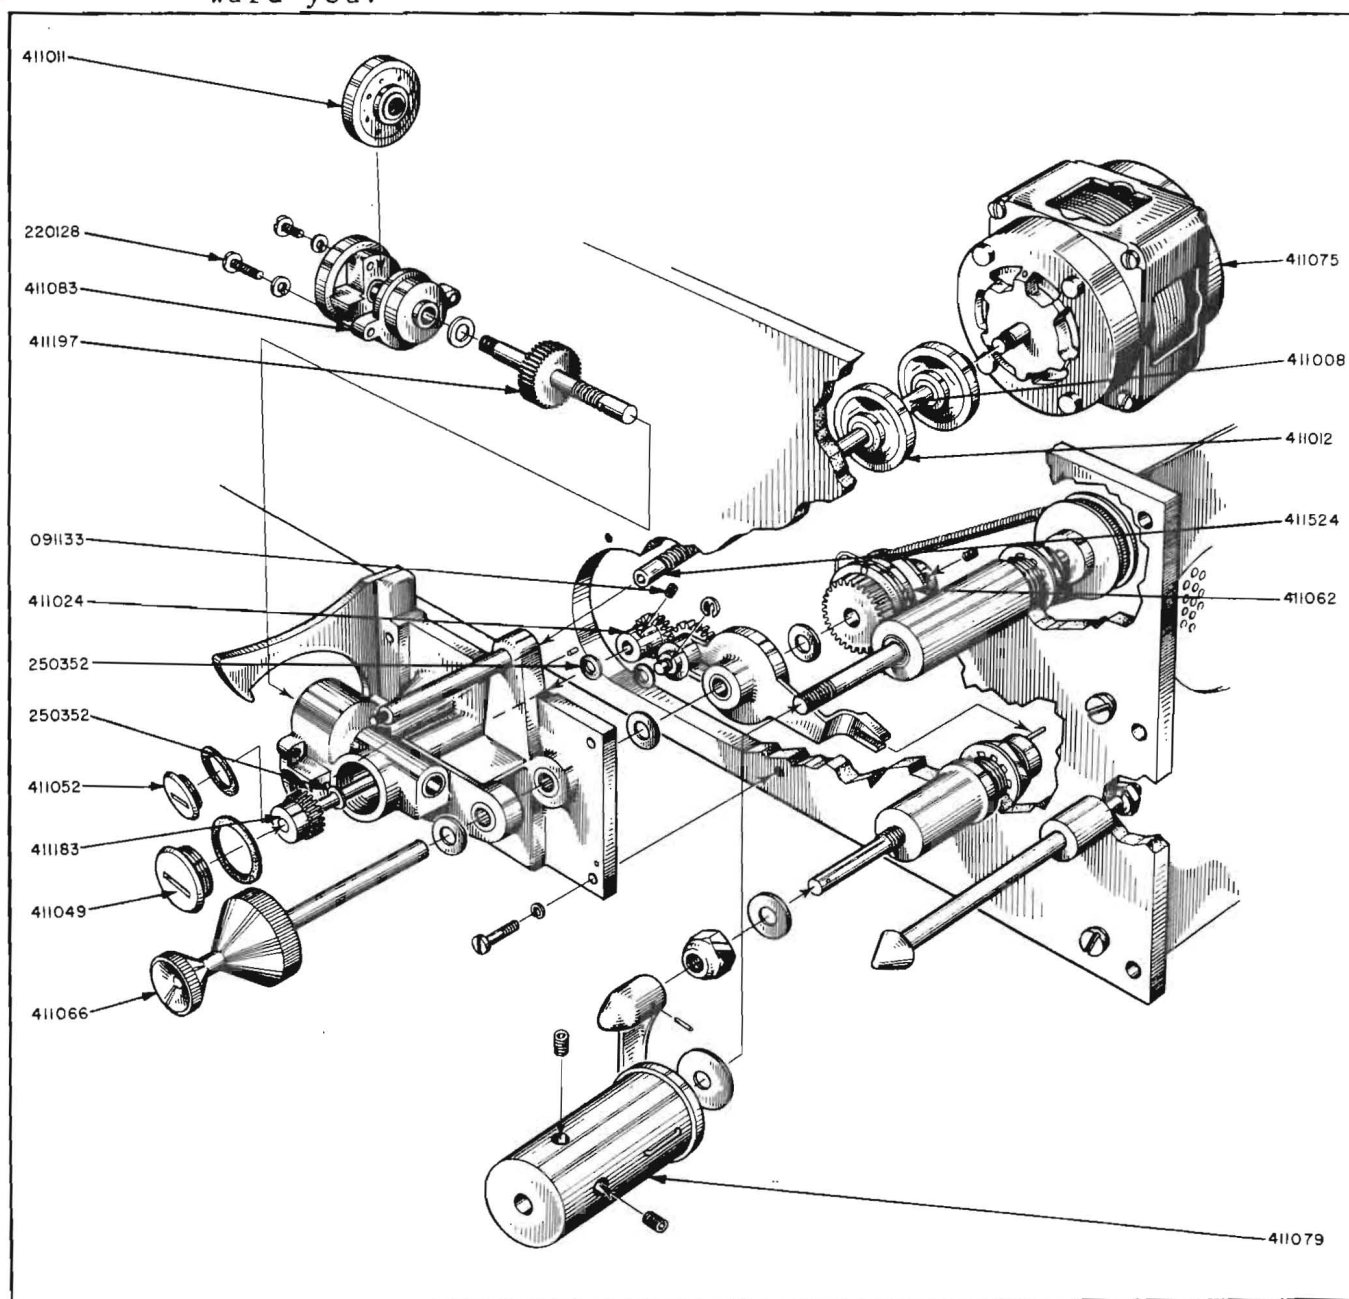

FIG. 14. Right Front Mechanical Assembly
5. 411075 Motor and 411012 Worm Drive Shaft Flexible Couplings (Figure 14).
6. 411197 30 R.P.M. Drive Gear and 411524 Worm Drive Shaft (Figure 14)